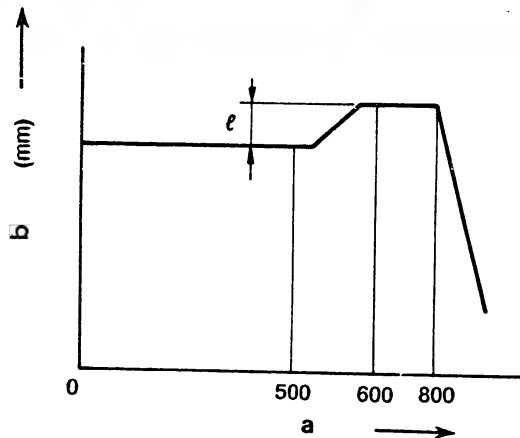

Fig. 144
3. Increase and decrease the pump speed in the 500 - 600 rpm range while using the wrench (KDEP 2605) to adjust the adjusting screw (181/3) so that the stroke of the control rod is only the specified amount "e" (refer to Figs. 144 and 145).